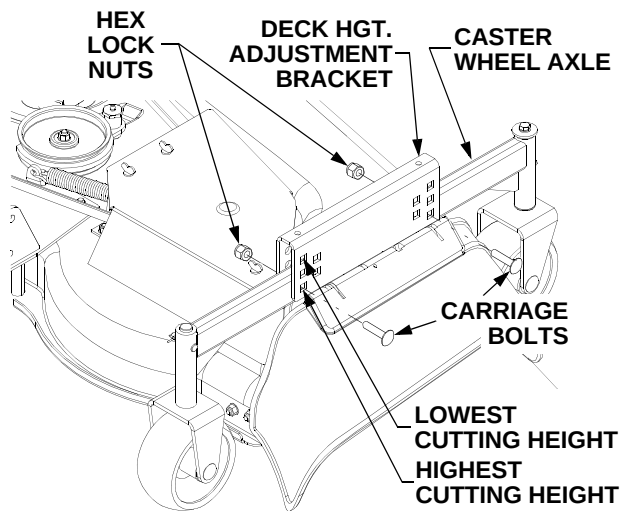

Figure 54
Refer to Figure 54 and adjust the deck cutting height as follows:
- Working from either the *left* or *right* hand side of the deck, support the caster wheel axle and remove the two carriage bolts and hex lock nuts. See Figure 54.
- Align the caster wheel axle with two corresponding lower index holes to raise the cutting height, or corresponding upper holes to lower the cutting height. See Figure 54.
- Check that the deck is in the lower cutting height position. If it is not, raise the deck, remove the hex lock nuts and carriage bolts, and reposition the caster wheel axles in the lower cutting height position (Refer to Figure 54). Lower the deck to the ground and stop the engine.